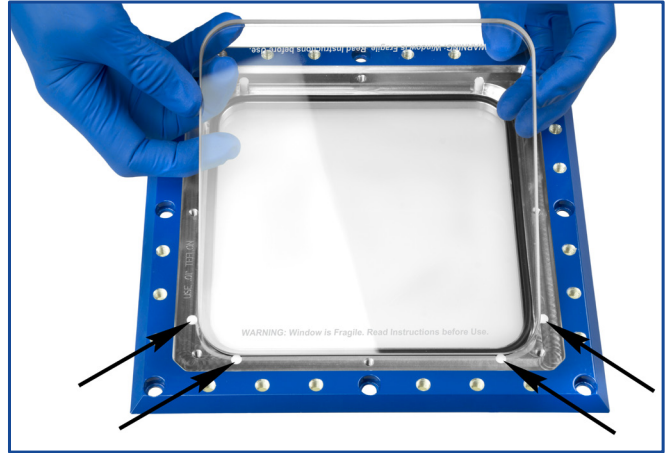

Figure 10 - Place the window pane
2. Gently place the window pane onto the O-ring and between the Teflon dowel pins (two in each corner of the plate, illustrated by arrows in Figure 10). Align the pane so it does not touch metal when being lowered into place. Be careful not to drop the pane onto the plate. Notice that the pane fits loosely in the plate recess. This is correct.